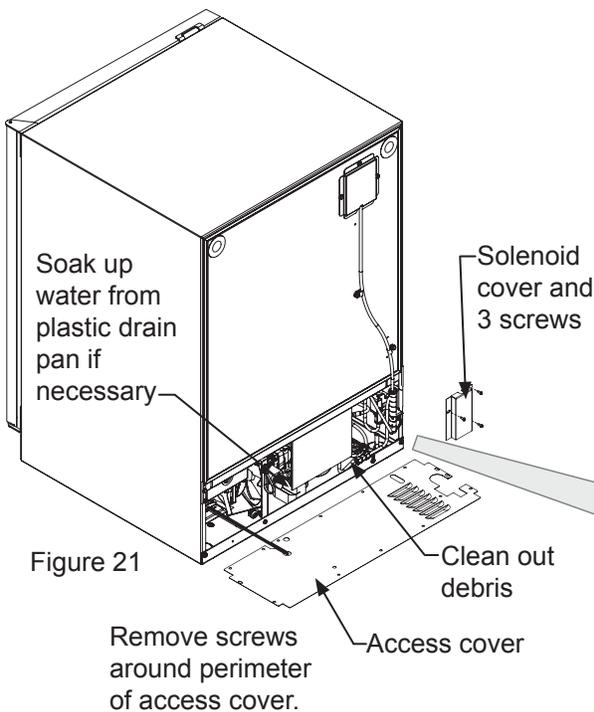

Figure 21
17. Remove the solenoid cover and 3 screws. (see Figure 21). Remove the rear access cover, (see Figure 21), and use a brush and vacuum to clean dirt and debris from the machine compartment.